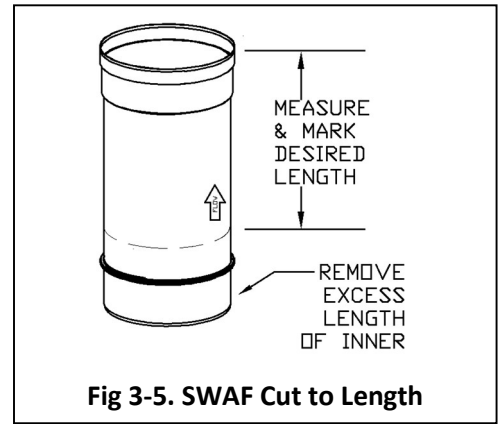

Fig 3-5. SWAF Cut to Length
3. Measuring DOWN from the OUTLET end of the pipe, mark a line around the perimeter of the pipe at the desired location for the cut (See Fig 3-5).